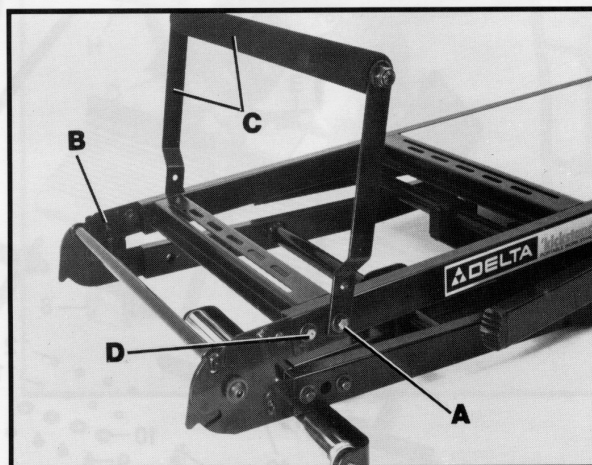

Fig. 2A
2. Align end holes in handle assembly (C) Fig. 2A, with threaded holes in kickstand (B) and loosely assemble handle to kickstand as shown with two screws, lockwashers and flat washers (A), which were removed in STEP 1.
3. Remove screw, lockwasher and flat washer (D) Fig. 2A, from kickstand (B). Remove corresponding screw, lockwasher and flat washer from the other side of kickstand (B). **NOTE:** Hardware will be used again.